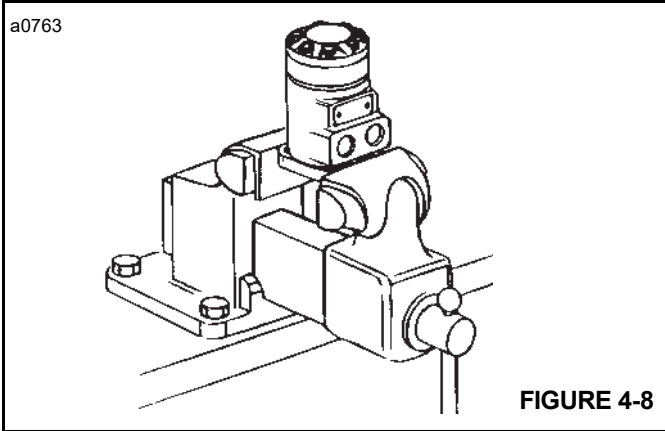

FIGURE 4-8
6. Remove the plastic nut Figure 4-8 from the solenoid shaft. Slide the solenoid off of the shaft.
1. Place the motor in a vice and clamp across the edges of the flange Figure 4-8 with the output shaft facing down. When clamping use protective devices on the jaws, such as soft jaws, pieces of rubber or wood.